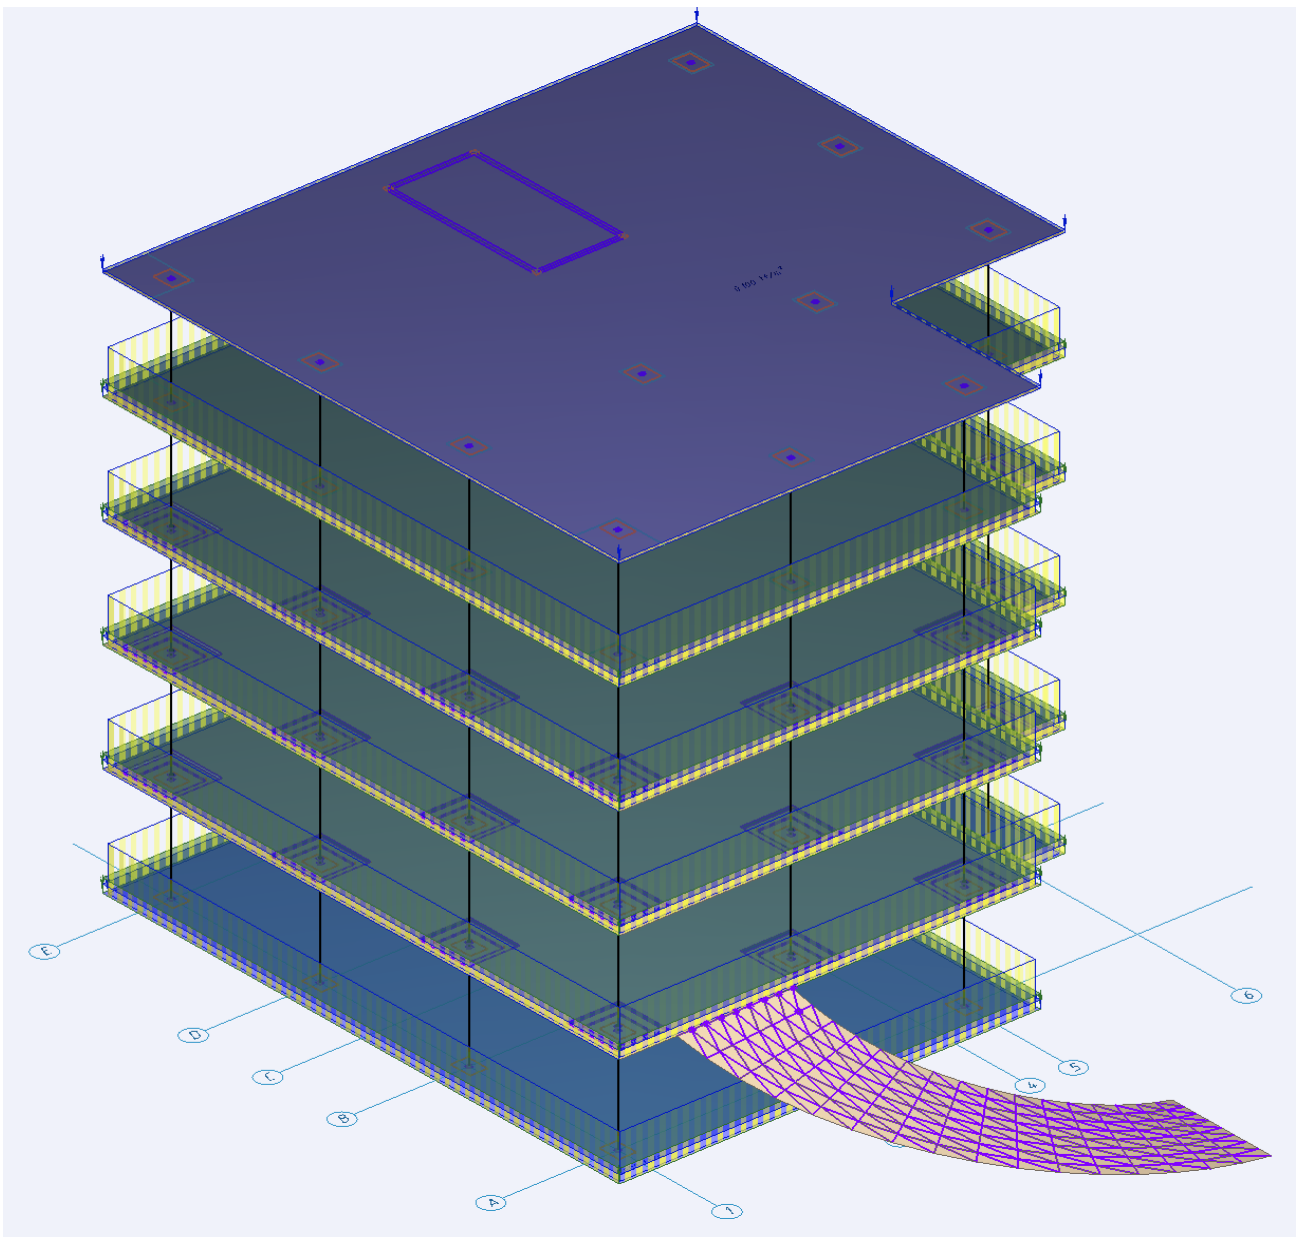

Figure 23.32. Meshed model with generated intersections
- ⇒ Meshed model with generated intersections will look like the image below (see Fig. 23.32).